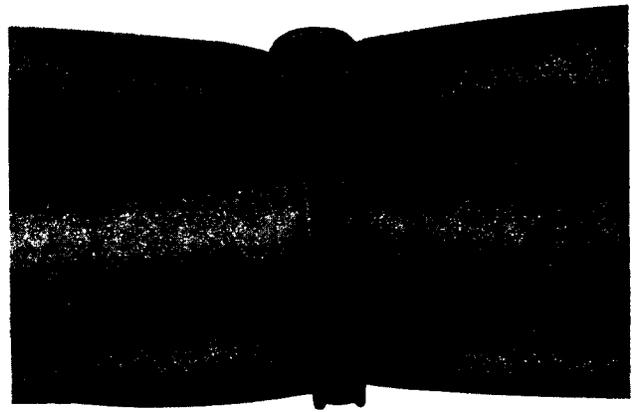

Fig. 14—KS-20986 Cable Tie
6.06 The C (MD) cable ties and D (MD) cable ties are plastic straps having ratchet buckle and tapered point ends. Detents allow a range of adjustments and permit easy release and reuse. The C cable ties are used as straps for the B adhesive cable tie. The C and D cable ties have been replaced by the KS-20986, List 4 cable ties (Fig. 14). The KS-20986, List 4 cable ties are used as straps for the E adhesive cable ties.
7. ATTACHING AND FASTENING GROUND WIRE (Fig. 14)